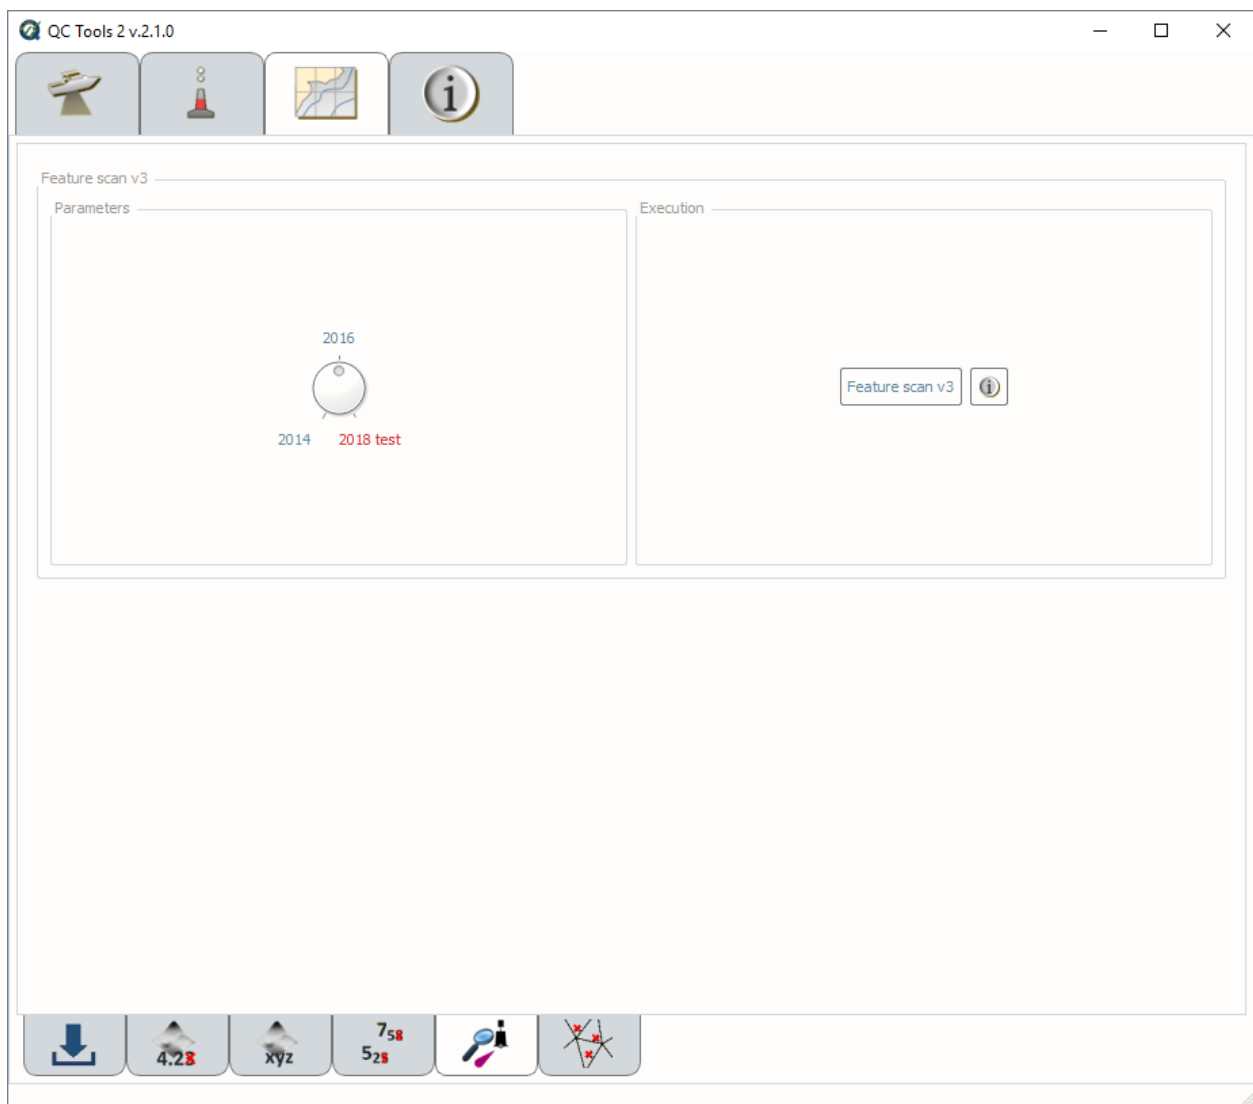

Fig. 2.64: Feature scan's interface.
- In **Parameters** (Fig. 2.64, left side), turn the knob to select the required year of HCell Specification. Currently, the '2018 test' is duplicative to 2016.
- In **Execution** (Fig. 2.64, right side), click **Feature scan v2**.